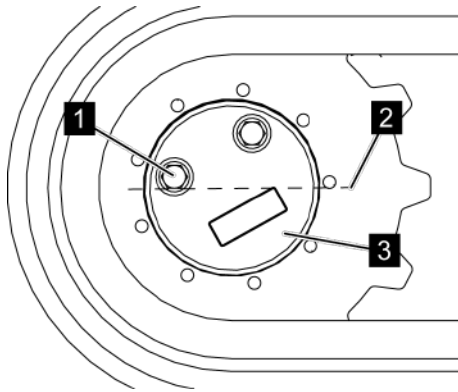

Fig. 159: Aligning the aerial access platform
2. ➤ Align the machine so that the lower edge of the screw connection (Fig. 159/1) is on the middle axis (Fig. 159/2) of the gearbox unit (Fig. 159/3).